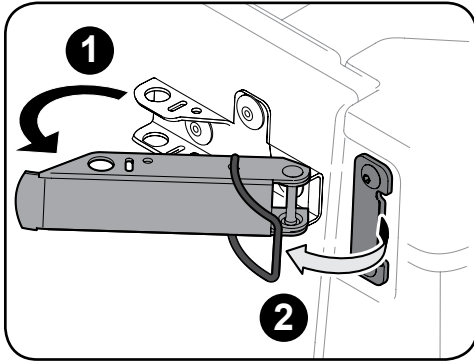
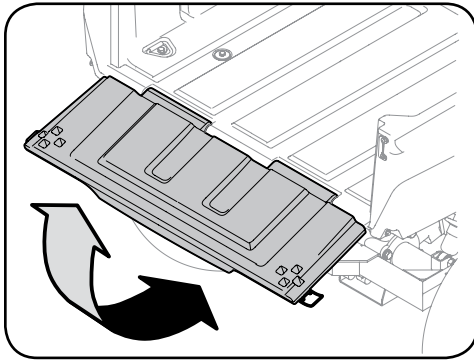
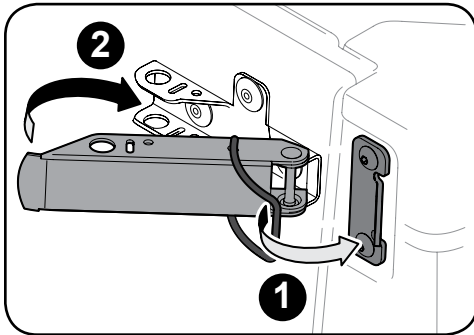

Figure 4-2
Figure 4-3
Figure 4-4
1. Unlatch the tailgate from cargo bed and lower. See Figure 4-2 & Figure 4-3.
2. Raise and relatch the tailgate to the cargo bed. See Figure 4-3 & Figure 4-4. Do not drive the vehicle with tailgate in the lowered position.